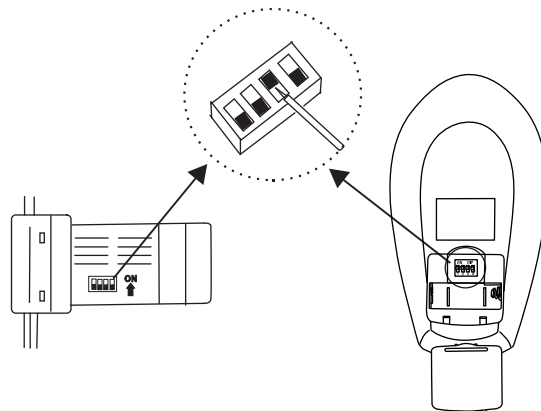

Figure 9
**NOTE:** The Hand Held Remote Control units included with your ceiling fan are equipped with 16 code combinations to prevent possible interference from or to other remote units. The frequency switches on your Receiver and Transmitter units have been preset at the factory. Please re-check to make sure the switches on both units are set to the same positions. The frequency settings should be changed only in case of interference or if a second or more remote controlled ceiling fans are installed in the same room. Any code combination will operate the ceiling fan and light as long as the Receiver and Transmitter units are set to the same codes. (Fig. 9)